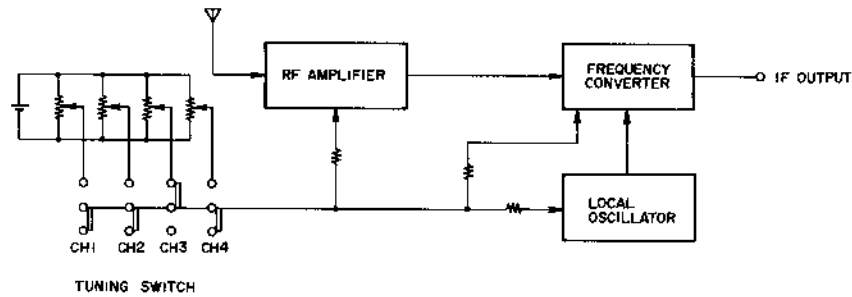

Fig. 6 Block Diagram
- 2) An example of a station selection system employing a varactor tuner is shown in Fig. 6. For station selection, push switches are used for selection of voltage supply to the varactor tuner. However, in the AA-1010L, these station selection push switches are pure electronic system sensi-touch switches.